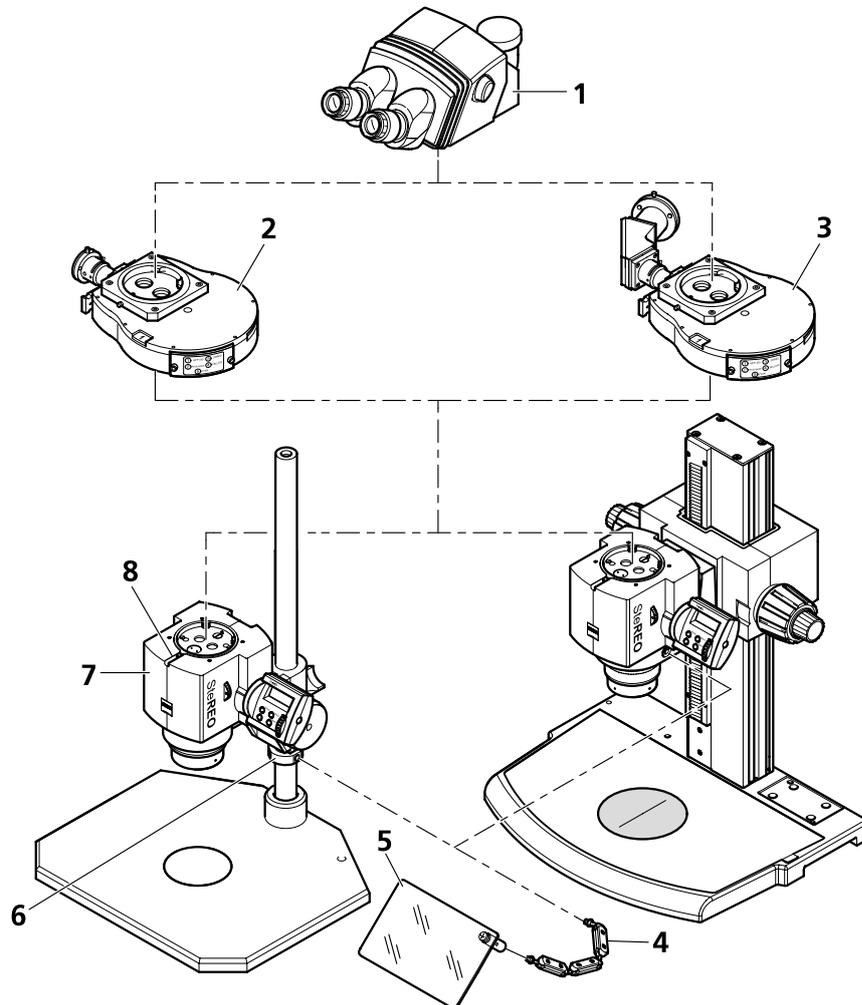

Fig. 21 Installation of PentaFluar S/X-Cite or S/HBO
- Loosen clamp screw (Fig. 21/8) using an SW 3 Allen key and remove the tube (Fig. 21/1). If attached, remove the intermediate tube in the same way.
- Depending on the chosen equipment, attach the PentaFluar S/X-Cite (Fig. 21/2) or the PentaFluar S/HBO (Fig. 21/3) vertical illuminator to the microscope body (Fig. 21/7), align it (the connector for the illumination equipment should point to the left) and tighten the clamp screw (Fig. 21/8).
- Using the plugged through SW 3 ball-headed screwdriver, screw the support (Fig. 21/4) of the dazzle protector into the M8 tapped hole on the carrier of the microscope body.
- At the other side of the support (Fig. 21/4), screw on the dazzle protector (Fig. 21/5) and tighten it with the SW 3 ball-headed screwdriver plugged through.
When using the dazzle protector on column stands, before installing the Stemi mount, first slip the clamping ring (Fig. 21/6) for the dazzle protector over the column and fix it by means of its clamp screw. The clamping ring has two M8 tapped holes, into which you may optionally screw in the support of the dazzle protector.